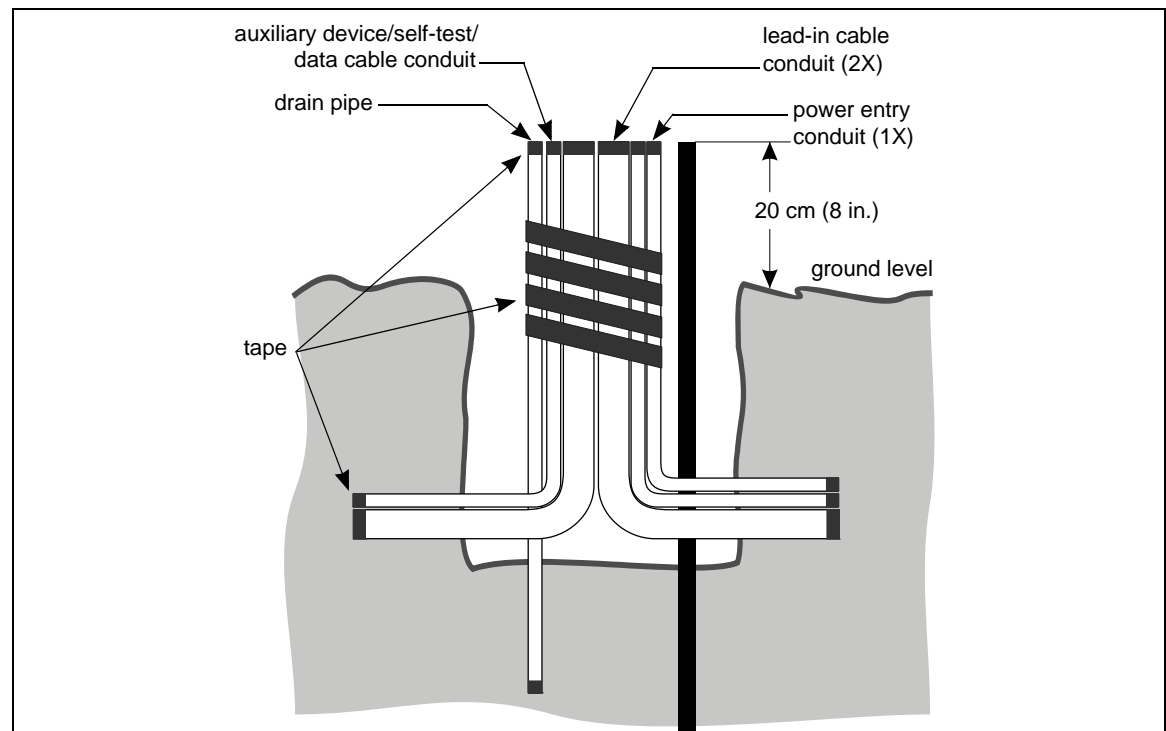

Figure 52: Location of conduit assemblies
5. Refer to Figure 52: Location of conduit assemblies, and install the sensor cable conduit, auxiliary sensor/data cable conduit, power wiring conduit, and drain pipe.